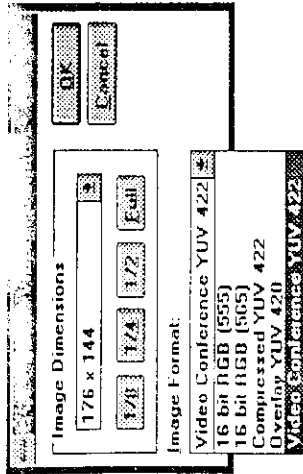

Figure 3-20.
2. SELECT different Image Formats by clicking on one of choices under Image format selections (see Figure 3-20). While all five formats allow image dimensions of up to full screen size, only "Video Conference YUV 422" image format allows full screen size.